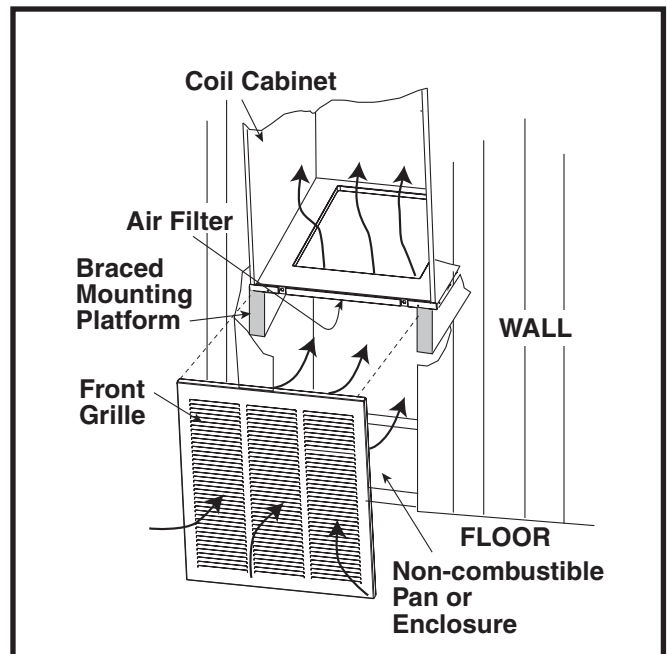

Figure 14. Over-the-Floor Return Air System
1. If floor underneath furnace is made of combustible material, locate a pan fabricated of non-combustible material with 1" upturned flanges under furnace return air opening. See Figure 14.
7. Install return air grille in closet preferably at same level as upflow stand or below mounting platform. See Figure 14.